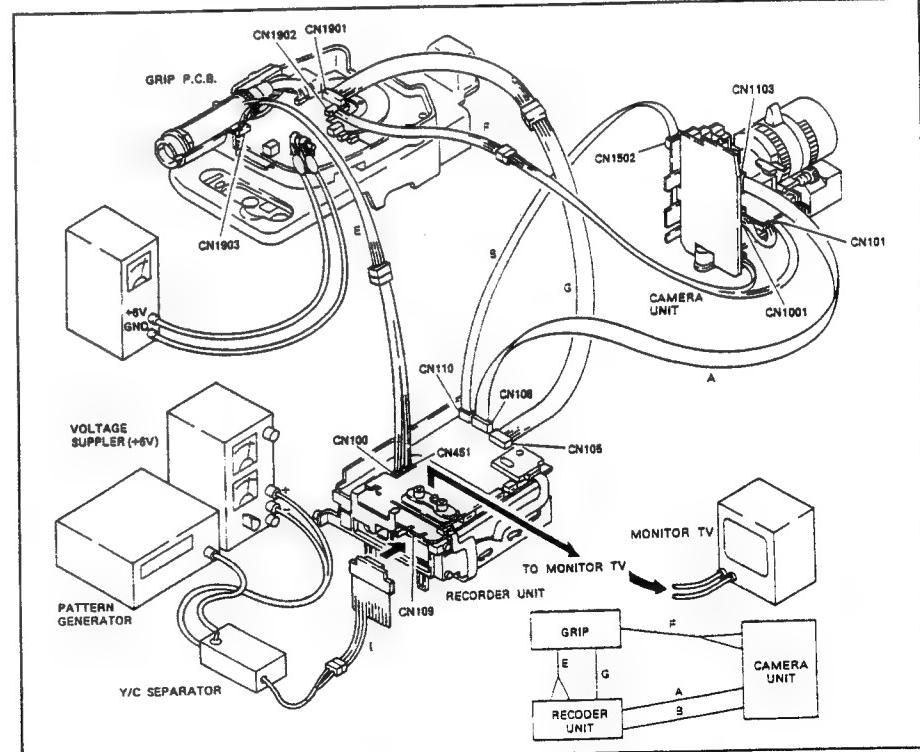

Fig. II-45
- 1) After disassembling down to the camera unit and recorder unit, interconnect the camera unit, recorder unit and GRIP P.C.B. by cables referring to Fig. II-45.